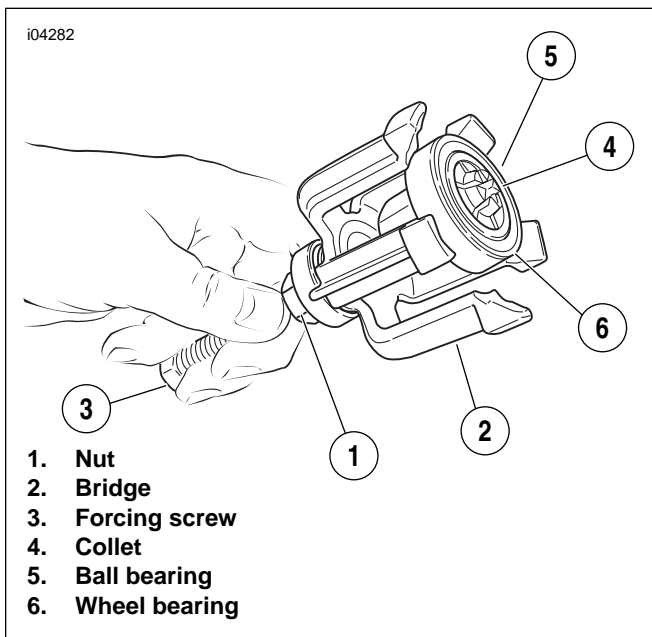

Figure 2-11. Removing Bearing from Puller
10. See Figure 2-11. Loosen the nut (1), and back off the bridge (2). Hold the forcing screw (3) while holding the collet (4) to remove the forcing screw from the collet.
11. Remove the ball bearing (5) and wheel bearing (6) from the collet (4).